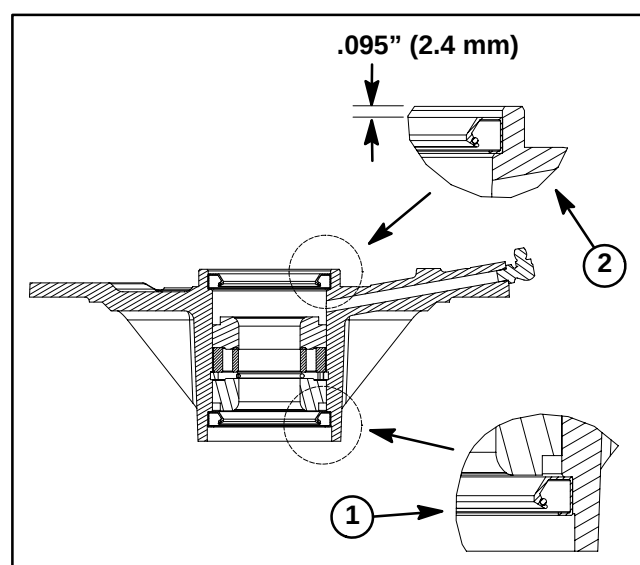

Figure 7
5. Install lower bearing cone and oil seal into bottom of spindle housing. **Note:** The bottom seal must have the lip facing out (down) (Fig. 7).
6. Slide spacer ring and inner bearing spacer into spindle housing, then install upper bearing cone and oil seal into top of housing. **Note:** The upper seal must have the lip facing in (down) (Fig. 7). When properly installed, the upper seal should be recessed .095" (2.4 mm) into the housing.